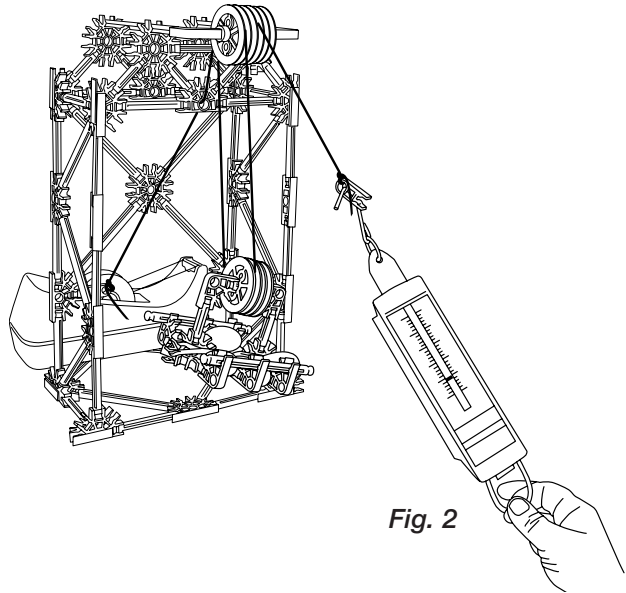

Fig. 2
1. Loop the pulley rope over one fixed pulley, under one movable pulley on the tray, and over a second fixed pulley on the frame. (See Fig 2)